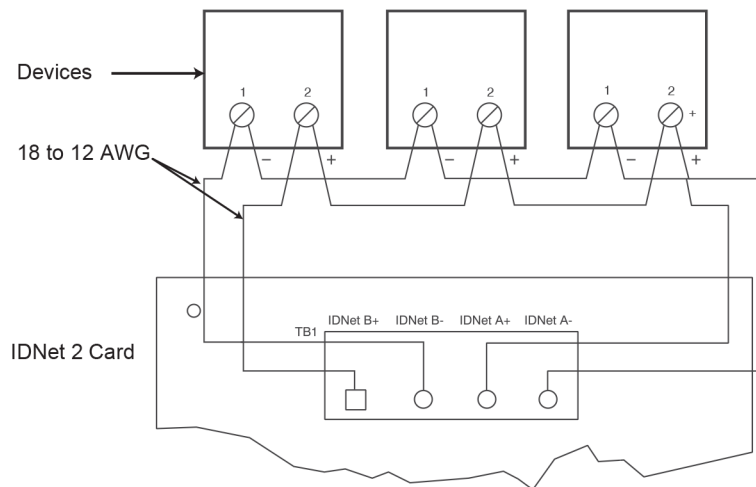

Figure 8: IDNet Loop Class A Wiring
4. Route wiring from the first device to the next as in/out. See Figure 8. Repeat for each device.